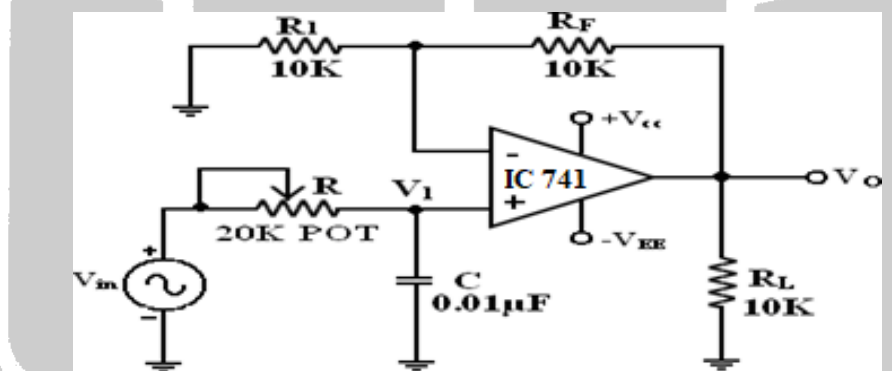

Fig. 20.2: Circuit diagram of First order Low pass filter
2. Connect the circuit as per the circuit diagram show in fig. 20.2.